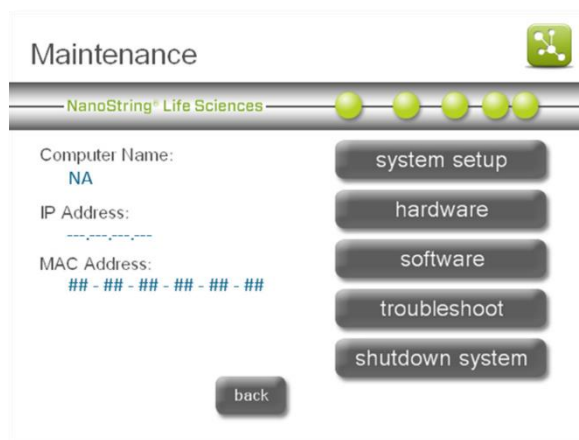
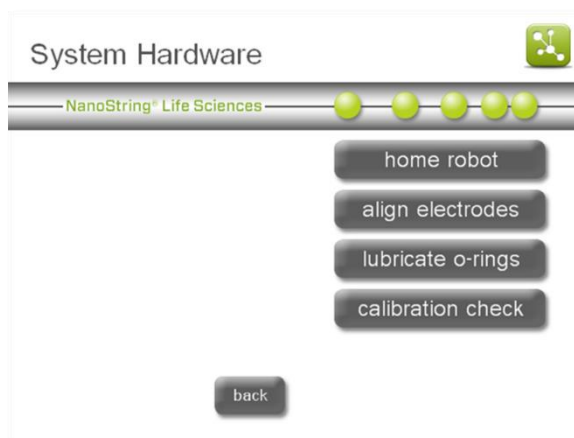

Figure 107: The Prep Station Maintenance Menu.
Figure 112: The System Hardware Menu.
The Maintenance Menu will appear (**Figure 107**).
The System Setup Menu allows the user to set the Prep Station's date and time and configure e-mail settings. To access it, press **system setup** on the Maintenance Menu (**Figure 107**).
To access the System Hardware Menu, press **hardware** on the Maintenance Menu (**Figure 107**). The System Hardware Menu (**Figure 112**) enables the user to:
1. Select **align electrodes** on the System Hardware Menu (**Figure 112**).